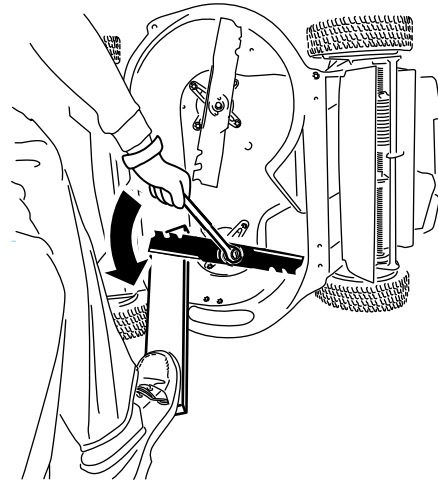

Figure 35
1. Use a block of wood to hold each blade steady and turn the blade bolt counterclockwise as shown in Figure 35.